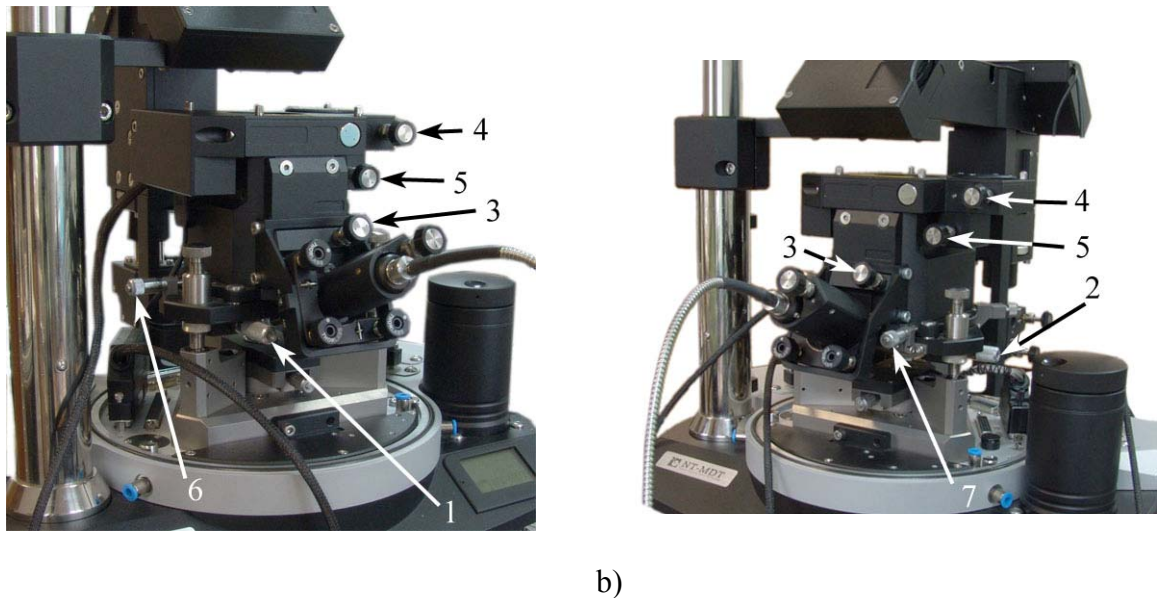
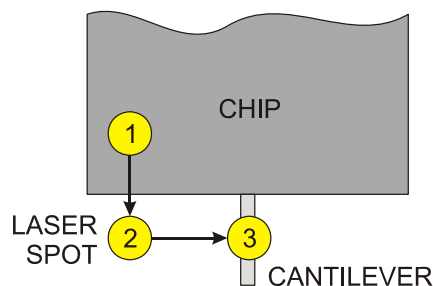

Fig. 10-30. Adjusting elements of the detection system
Fig. 10-31. Aiming the laser spot at the cantilever
3. Watch the probe and move it with the screws 1 and 2 (see Fig. 10-30) to the position where the light spot appears on the probe chip (pos. 1 in Fig. 10-31).
2. Move the laser spot until it comes in front of the probe chip by displacing the probe with the screw 1 forward to the moment the spot appears on the sample (pos. 2 in Fig. 10-31).
3. Move the probe with the screw 2 along the laser spot until the spot comes to the cantilever (pos. 3 in Fig. 10-31). This results in displaying a distinct bright spot on the optical viewing system monitor.